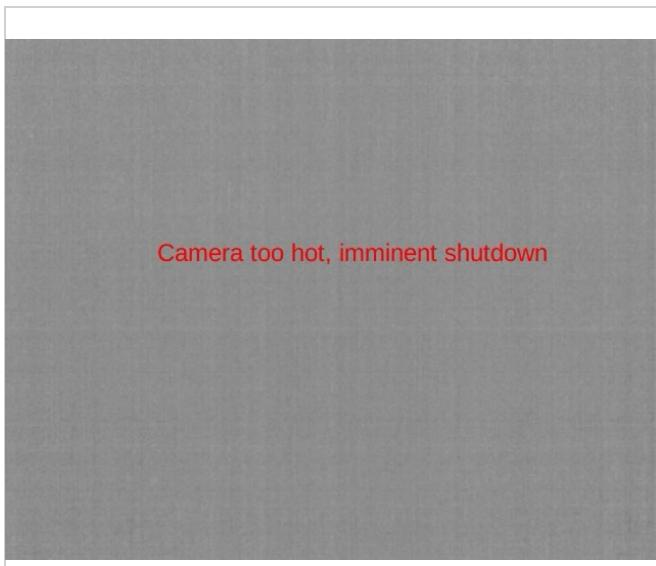

FIGURE 40: "OVERTEMP" SYMBOL (FACTORY-DEFAULT)
- **Overtemp State**: By factory default, the symbol shown in Figure 40 is displayed whenever the camera is in the overtemp state. See Section 7.2 for full description of this state.